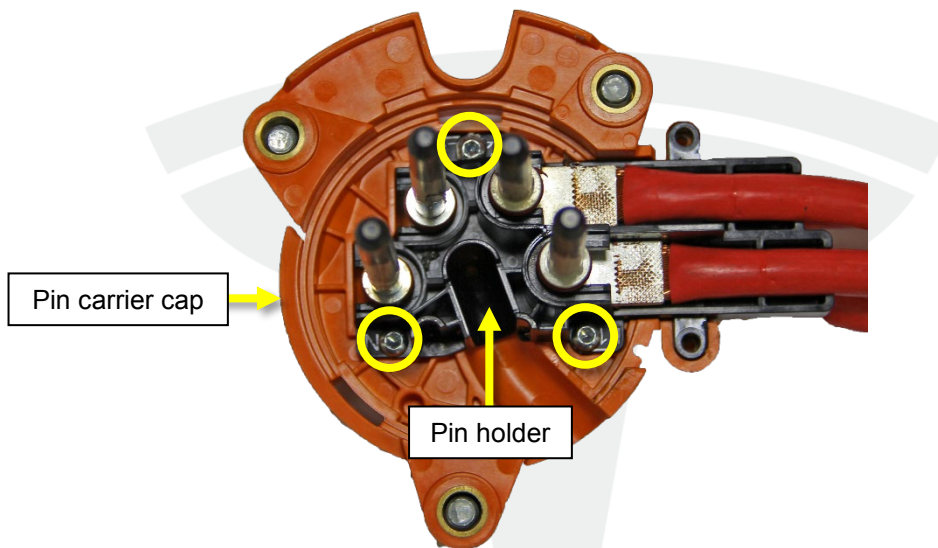

Figure 29
- a. Remove the 3 screws that secure the pin holder to the pin carrier cap (Figure 29) and discard the pin carrier cap and/or the pin holder.
- b. Install the screws (x3) that secure the new pin carrier cap to the pin holder (torque 1 Nm) (Figure 29).